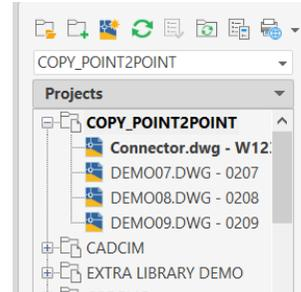

Figure 2-73 The Copy_Point2Point project with the drawings added to it
4. Choose the **No** button from this message box; the selected drawings are added to the **Copy_Point2Point** project, as shown in Figure 2-73. If the drawings are not displayed in the **Copy_Point2Point** project, choose **Refresh** from the **PROJECT MANAGER**.